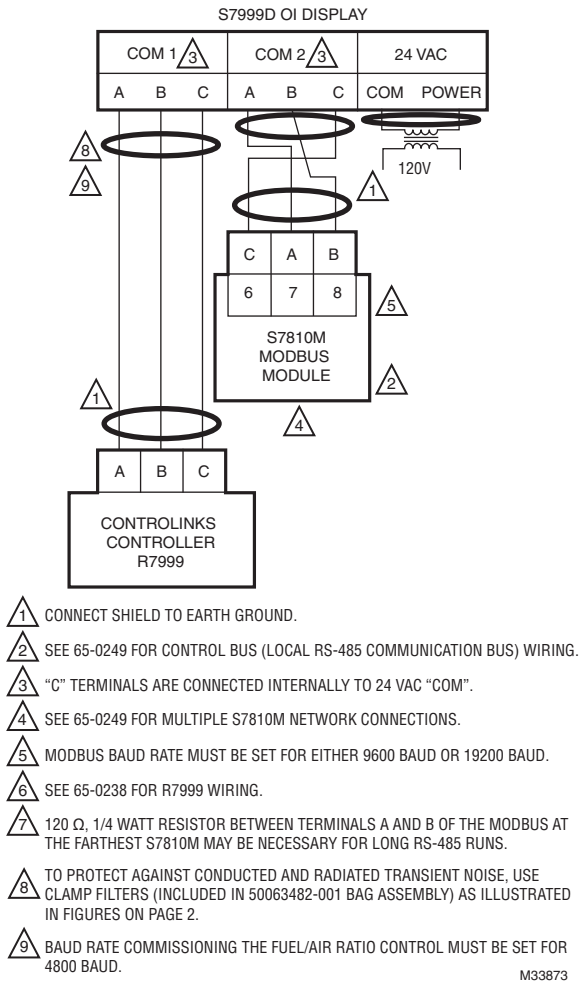
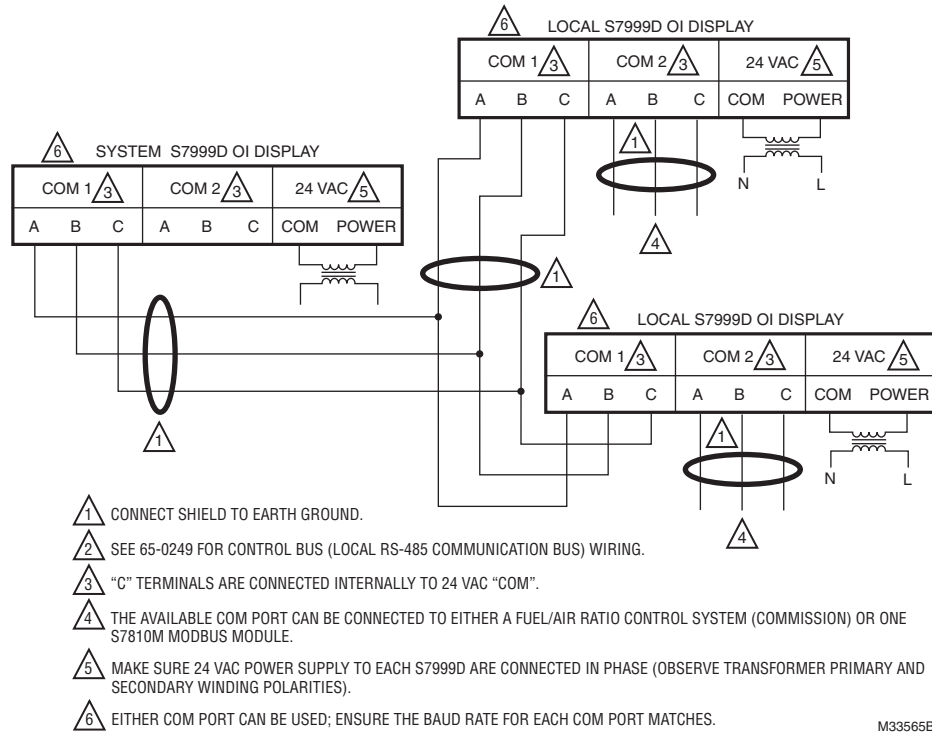

Fig. 3. Wiring diagram for commissioning the Fuel/Air Ratio Control example.
Fig. 9. System Modbus™ network wiring.
7. Wire the 24 Vac power supply and the RS-485 cables using the configuration and wiring diagrams in Fig. 3 to Fig. 9.
Use the following ControlLinks™ instructions to install the system hardware: See Fig. 3 for wiring block diagram.
The Modbus™ network on the COM port setup for One or more boiler systems (ensure the port baud rate matches the Modbus baud rate and the port Modbus addressing range covers the range of addresses of the Modbus devices on the network) consists of wiring the S7810M devices together as slaves to the S7999D. An S7810M device is required for each burner/boiler system. Up to 99 burner/boiler systems can be connected in this configuration (unless other slave devices are included in the Modbus™ wiring). Fig. 3 depicts this wiring.